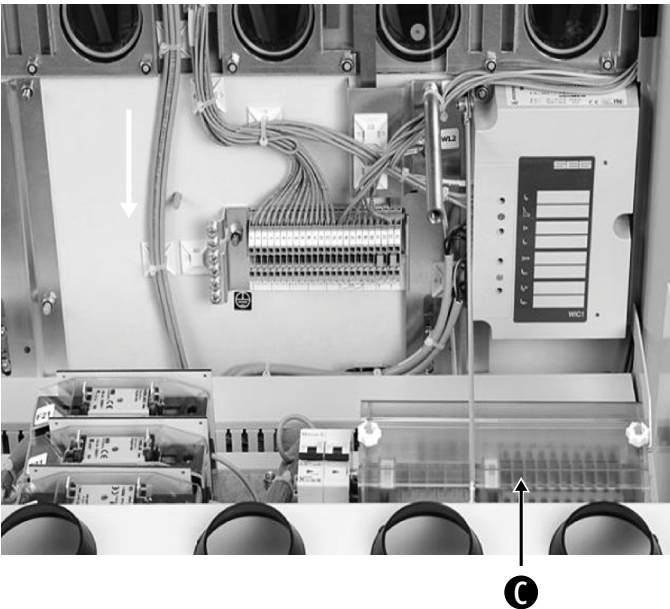

Figure 3-15: Terminals for equipment
Wiring for external metering equipment can be connected through the holes in both side posts (B). The rectangular metal cover plates (B) must be removed to get access. The terminals are located on the right side of secondary compartment (C). See figure 3-15.